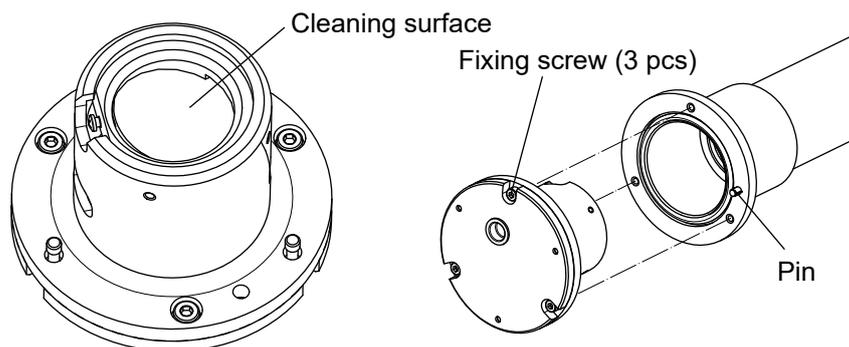

Figure 6.5 How to remove and install Reflector part
- (1) Remove the three reflector fixing screws, and remove the reflector part. (Figure 6.5)
- (2) Blow off particulate matter on reflector surfaces using clean, dry instrument air or nitrogen gas.
- (3) Wipe gently with warm water with hypoallergenic soap detergent and a soft cloth that will not scratch reflector surfaces.